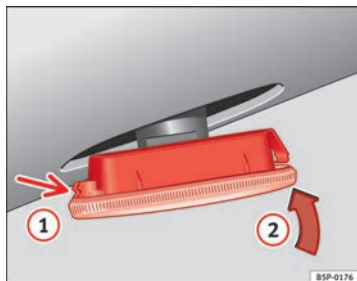

Fig. 194 Side turn signal
- First place the turn signal in the opening in the bodywork, fixing the tabs ⇒ Fig. 194, arrow ①.
- Insert the bulb as shown by the arrow ② ⇒ Fig. 194.